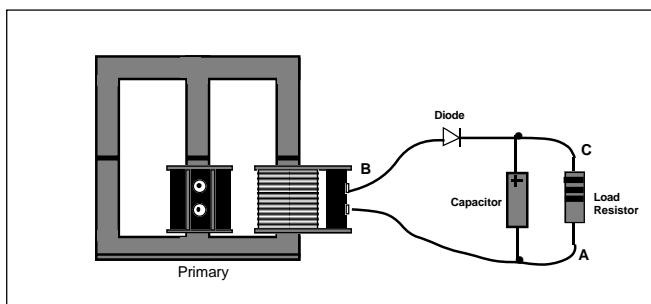

Figure 4
7. Set up the 200-turn coil as primary, and the 800-turn coil as the secondary. Put a diode into the circuit as shown in Figure 4, and leave the 1000- Ω resistor in as a load.
10. Add the 470 μF capacitor as shown in Figure 4. What is the new waveform across the load resistor? Is it still varying as much as it did previously? What is the d.c. level of the resulting voltage?